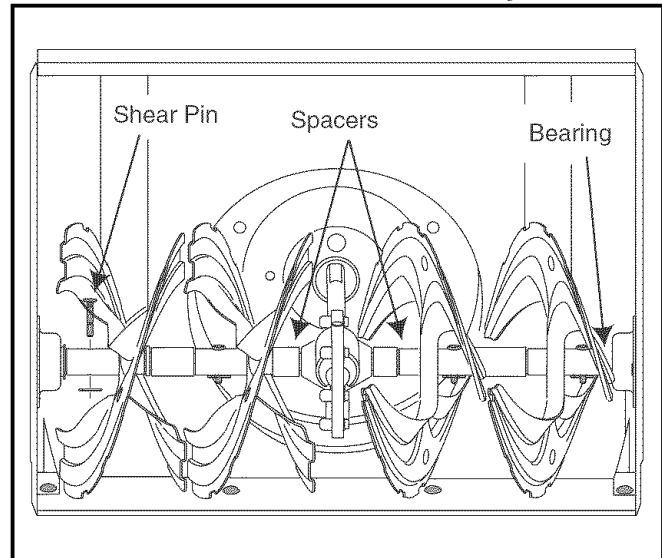

Figure 7
- At least once a season, remove the shear pins on auger shaft. Spray lubricant inside shaft, around the spacers. Also lubricate the flange bearings found at either end of the shaft. See Figure 7.
- The augers are secured to the spiral shaft with two shear pins and cotter pins. If the auger should strike a foreign object or ice jam, the snow thrower is designed so that the pins may shear. Refer to Figure 7.